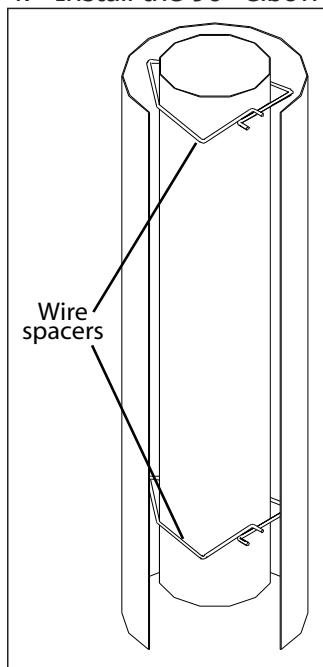

Figure 19: Wire Spacers.
11. Stretch the liner out. Attach the flexible liner to the vent termination cap by placing a small bead of high temperature silicone on the vent termination and slide the flex liner onto the vent terminal and secure with three (3) sheet metal screws evenly spaced.
12. Dress the flex liner through the wall thimble and attach the vent terminal to the outside of the house using four (4) wood screws provided. The use of non-hardening mastic should be used around the vent to ensure a watertight seal.
13. Install two (2) wire spacer around the flex pipe. Slide the horizontal section of pipe over the flexible liner. Ensure the wire spacers are positioned at either end of the pipe (refer to Figure 19 and 20).
18. Install the remaining wire spacers over the flexible liner and install the vertical section of pipe. Ensure the wire spacers are positioned at either end of the pipe (refer to Figure 19 and 20).
19. Place a bead of high temperature silicone on the flue pipe and slide the flex liner over the collar, secure the flex liner with three (3) sheet metal screws evenly spaced.
20. Align all straight sections of pipe, slipping all joints together and installing with three (3) sheet metal screws evenly spaced.